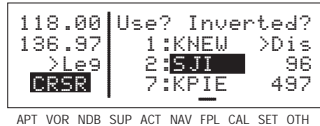

Figure 4-13
- With the outer knob, position the cursor over the waypoint identifier which you desire to follow the waypoint being added. Another way to think of this is to position the cursor over the location in the flight plan you wish the new waypoint to be added. For example, if **SJI** is presently the second waypoint in the flight plan and you wish to insert **GPT** in the number 2 position in front of **SJI**, move the cursor over **SJI** (figure 4-13).